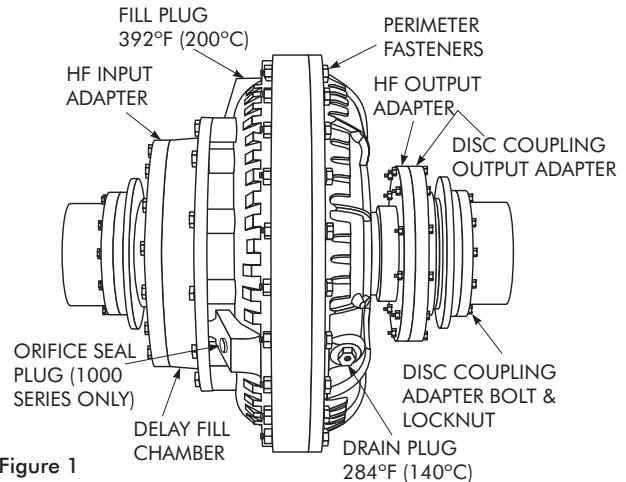

Figure 1
- A. The fluid coupling is shipped with input and output adapters, discpacks and coupling adapters assembled as shown in Figure 1, Page 1.
- A. Rotate fluid coupling until fill plug is on top and remove the fill plug, (both fill and drain plugs have metric threads). See Figure 1, Page 1. **NOTE:** Coupling can be filled through either the fill or the drain plugs.